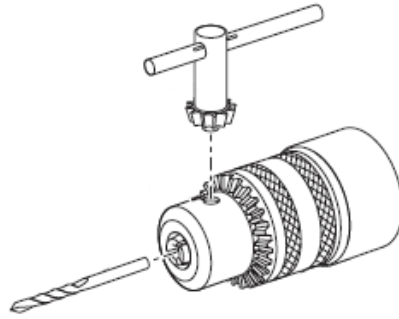

FIGURE 2
- 2.** Insert the base of the accessory into the chuck and with the help of the chuck key, tighten equally on the three attachment positions (figure 2);